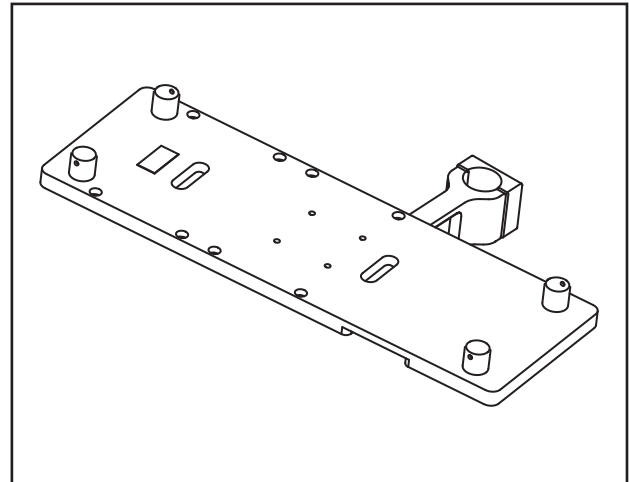

FIGURE 1: MPS Console Adapter Plate
1. Reference Figure 1 for the following instructions.